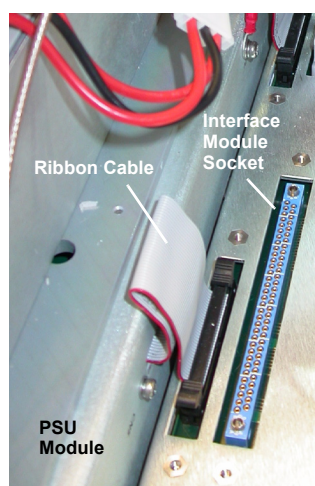

Fig 5-25 PSU Ribbon Cable
- (5) Refer to Fig 5-25 and identify the PSU ribbon cable. Disconnect the cable from the chassis connector.